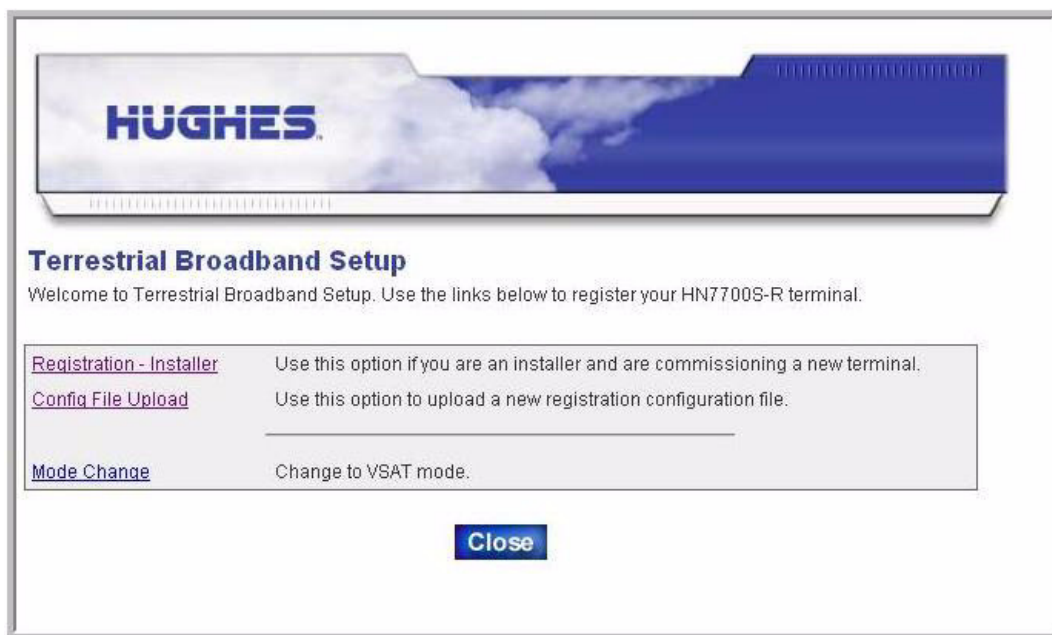

Figure 14: Terrestrial Broadband Setup screen
1. At the Terrestrial Broadband Setup screen as shown in Figure 14, click the Registration - Installer link.